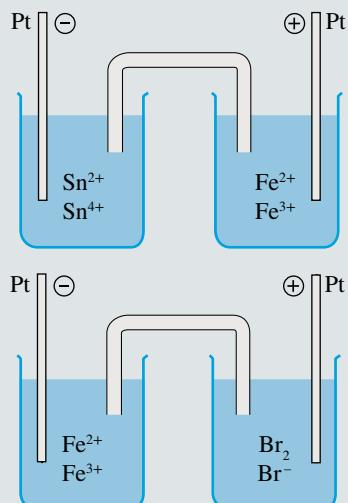

FIGURE 5.5.1 Two galvanic cells constructed under standard conditions.
- 7 The two galvanic cells shown in Figure 5.5.1 were constructed under standard conditions.